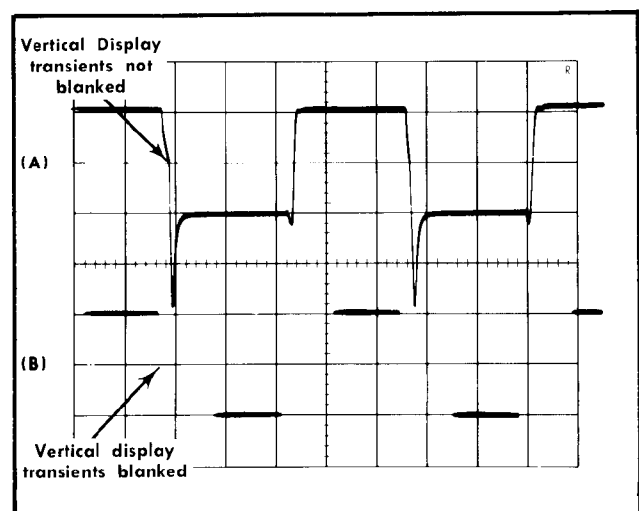

Fig. 5-3. Display presented when calibration oscilloscope CRT cathode selector switch set to: (A) Ext CRT cathode (B) Chopped blanking.
- g. CHECK—Calibration oscilloscope display; the vertical display transients should now be blanked out during the switching interval; see Fig. 5-3.